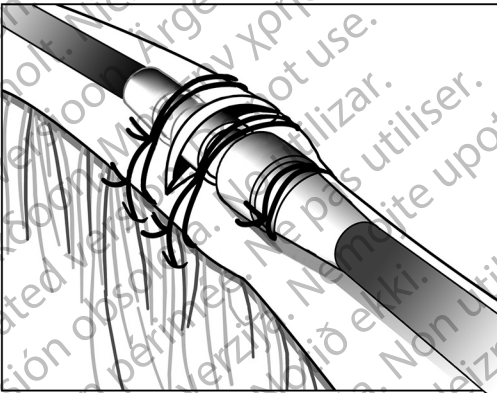

Figure 11. Example of suture sleeve, venous cutdown technique
3. Using the same groove, secure the lead and vein to the adjacent fascia (Figure 11 Example of suture sleeve, venous cutdown technique on page 26).